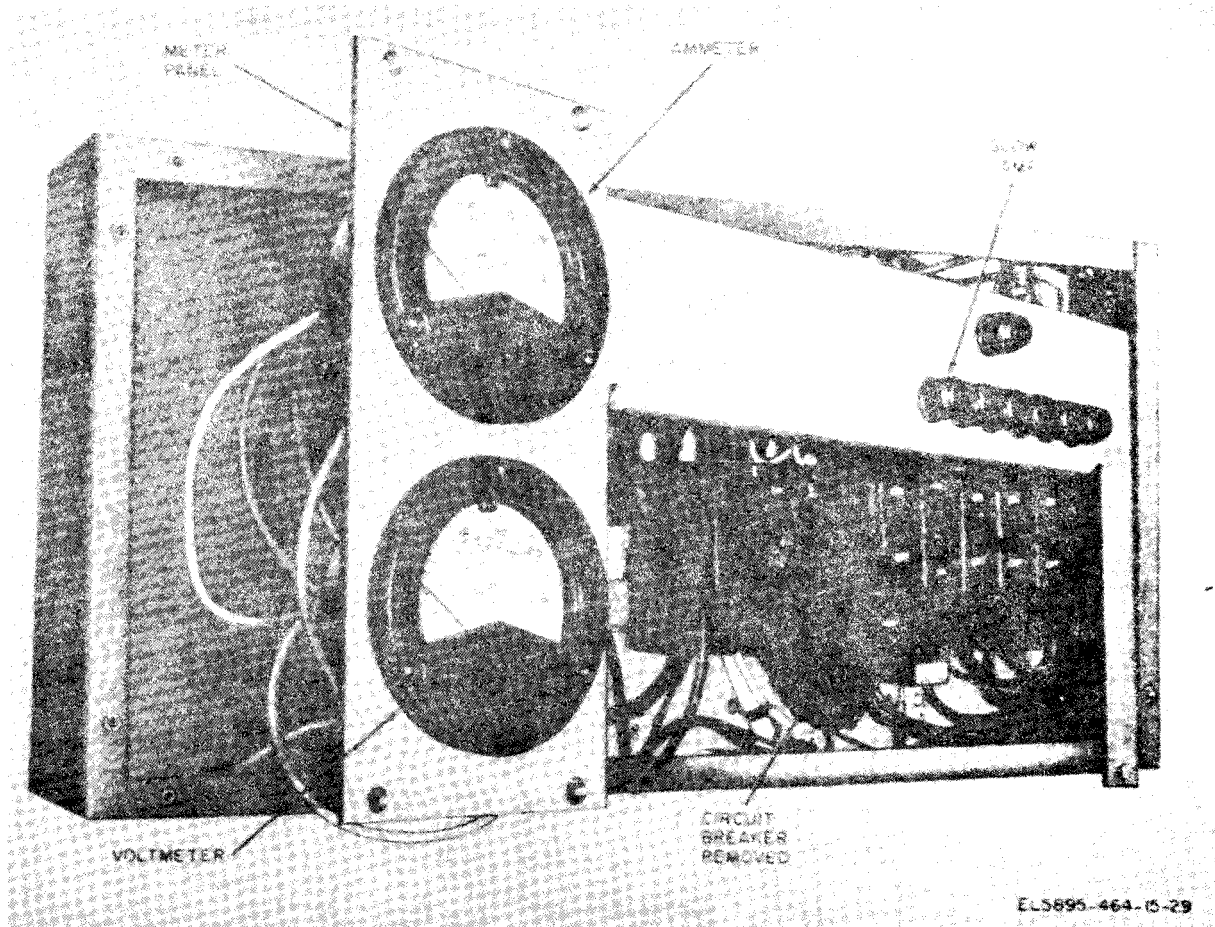

Figure 4-10. Power distribution panel, meter panel, and circuit breaker switch removed.
(fig. 4-10)
(1) Grasp the defective circuit breaker and pull it straight out from the panel (fig. 4-10).
(2) Disconnect the wires connected to the circuit breaker.
(3) Connect the wires to the appropriate terminals of the replacement circuit breaker.
(4) Position the circuit breaker in the power distribution panel and firmly press it in place.
(1) Tag and disconnect the black and white ammeter leads from the transformer terminals.
(2) Remove the nuts and washers that secure the current transformer inside the panel, and remove the current transformer (fig. 4-10).
(1) Tag the color connections and remove the leads from the meter terminals.
(2) Remove the bolts that secure the meter to the panel and lift the meter out (fig. 4-10).
(3) Position the replacement meter in the panel and secure it with the original bolts.
(4) Connect the leads to the appropriate terminals of the replacement meter.